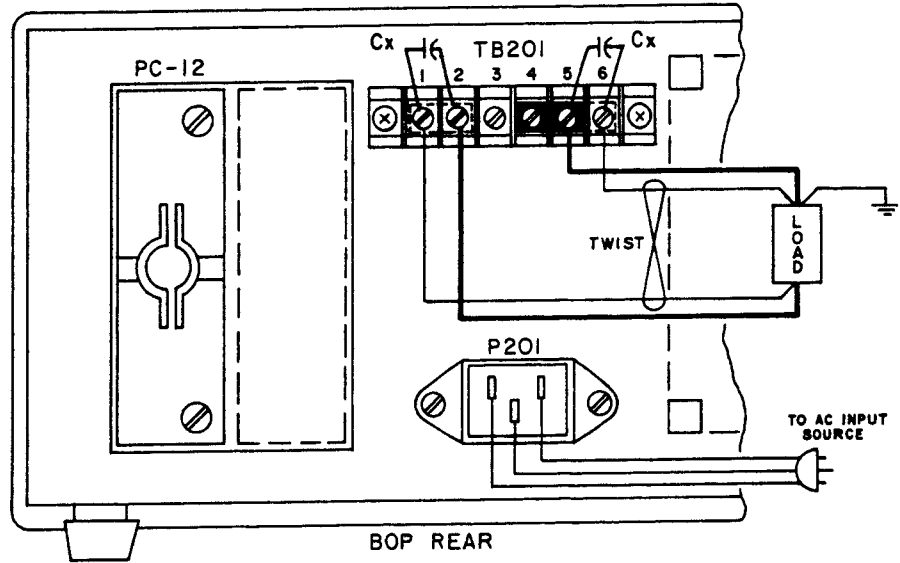

FIG. 3-3A LOAD CONNECTION AT THE REAR, WITH ERROR SENSING.
- E) **LOAD CONNECTION (I).** The basic interconnections between the BOP and the load are shown in FIG.'s 3-2A and 3-2B. The load wire size for the 2-wire connection shown should be as large as practicable to keep the series resistance and inductance low. In addition, the load wire pair should be tightly twisted, to reduce possible "pick-up" from stray magnetic fields. The basic 2-wire connection is useful where the voltage drop in the load wires is of minor consequence, as for example, operation into a constant load or in a constant current operating mode.
- C) **LOAD CONNECTION (II).** The recommended load connection for all applications requiring minimum load effect across a remote load is shown in FIG. 3-3A and 3-3B. A twisted, shielded pair of wires (No. 20 AWG minimum) are connected from the BOP sensing terminals to the load. This "remote error sensing" technique will compensate for load wire voltage drops up to 0.5 volts per wire.